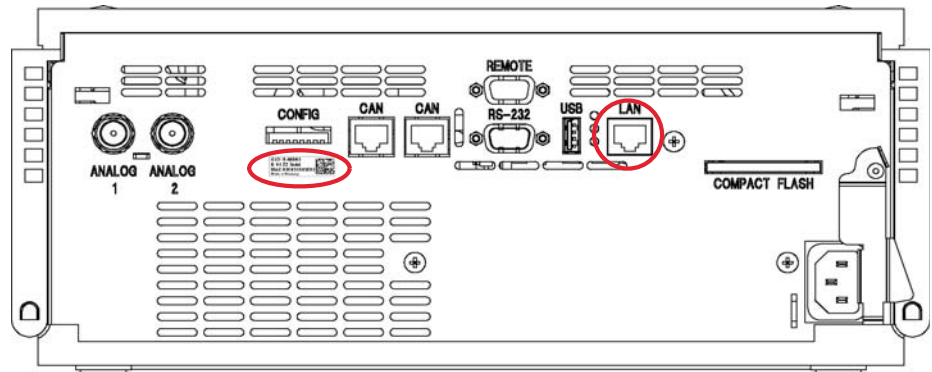

Figure 13 Location of LAN interface and MAC label
- 1 Note the MAC (Media Access Control) address for further reference. The MAC or hardware address of the LAN interfaces is a world wide unique identifier. No other network device will have the same hardware address. The MAC address can be found on a label at the rear of the module underneath the configuration switch (see Figure 13 on page 58).
- 2 Connect the instrument's LAN interface (see Figure 13 on page 58) to